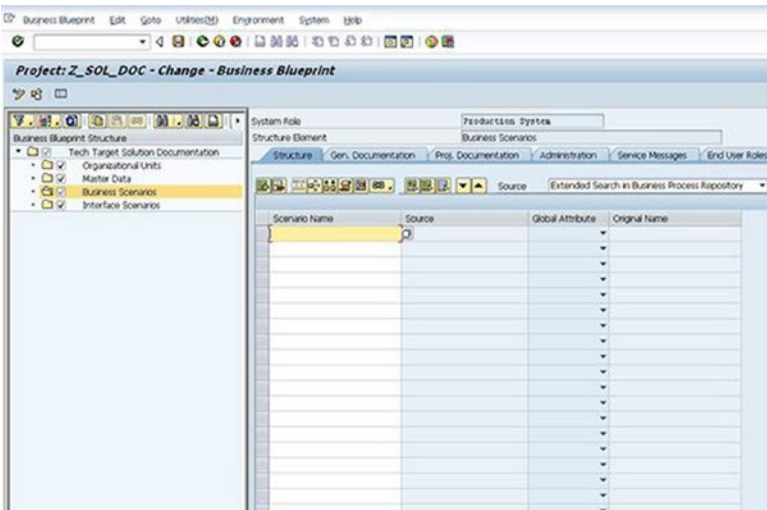

Figure 10-7. SolMan scenarios
- 3. Choose the process steps from the Business Process Repository (BPR); include all process steps to deploy SAP SolMan. You can build the business process repository (BPR) by using reference content to build your business blueprint that matches the module that you want to deploy. Now, you'll select the scenarios, as shown in Figure 10-7.